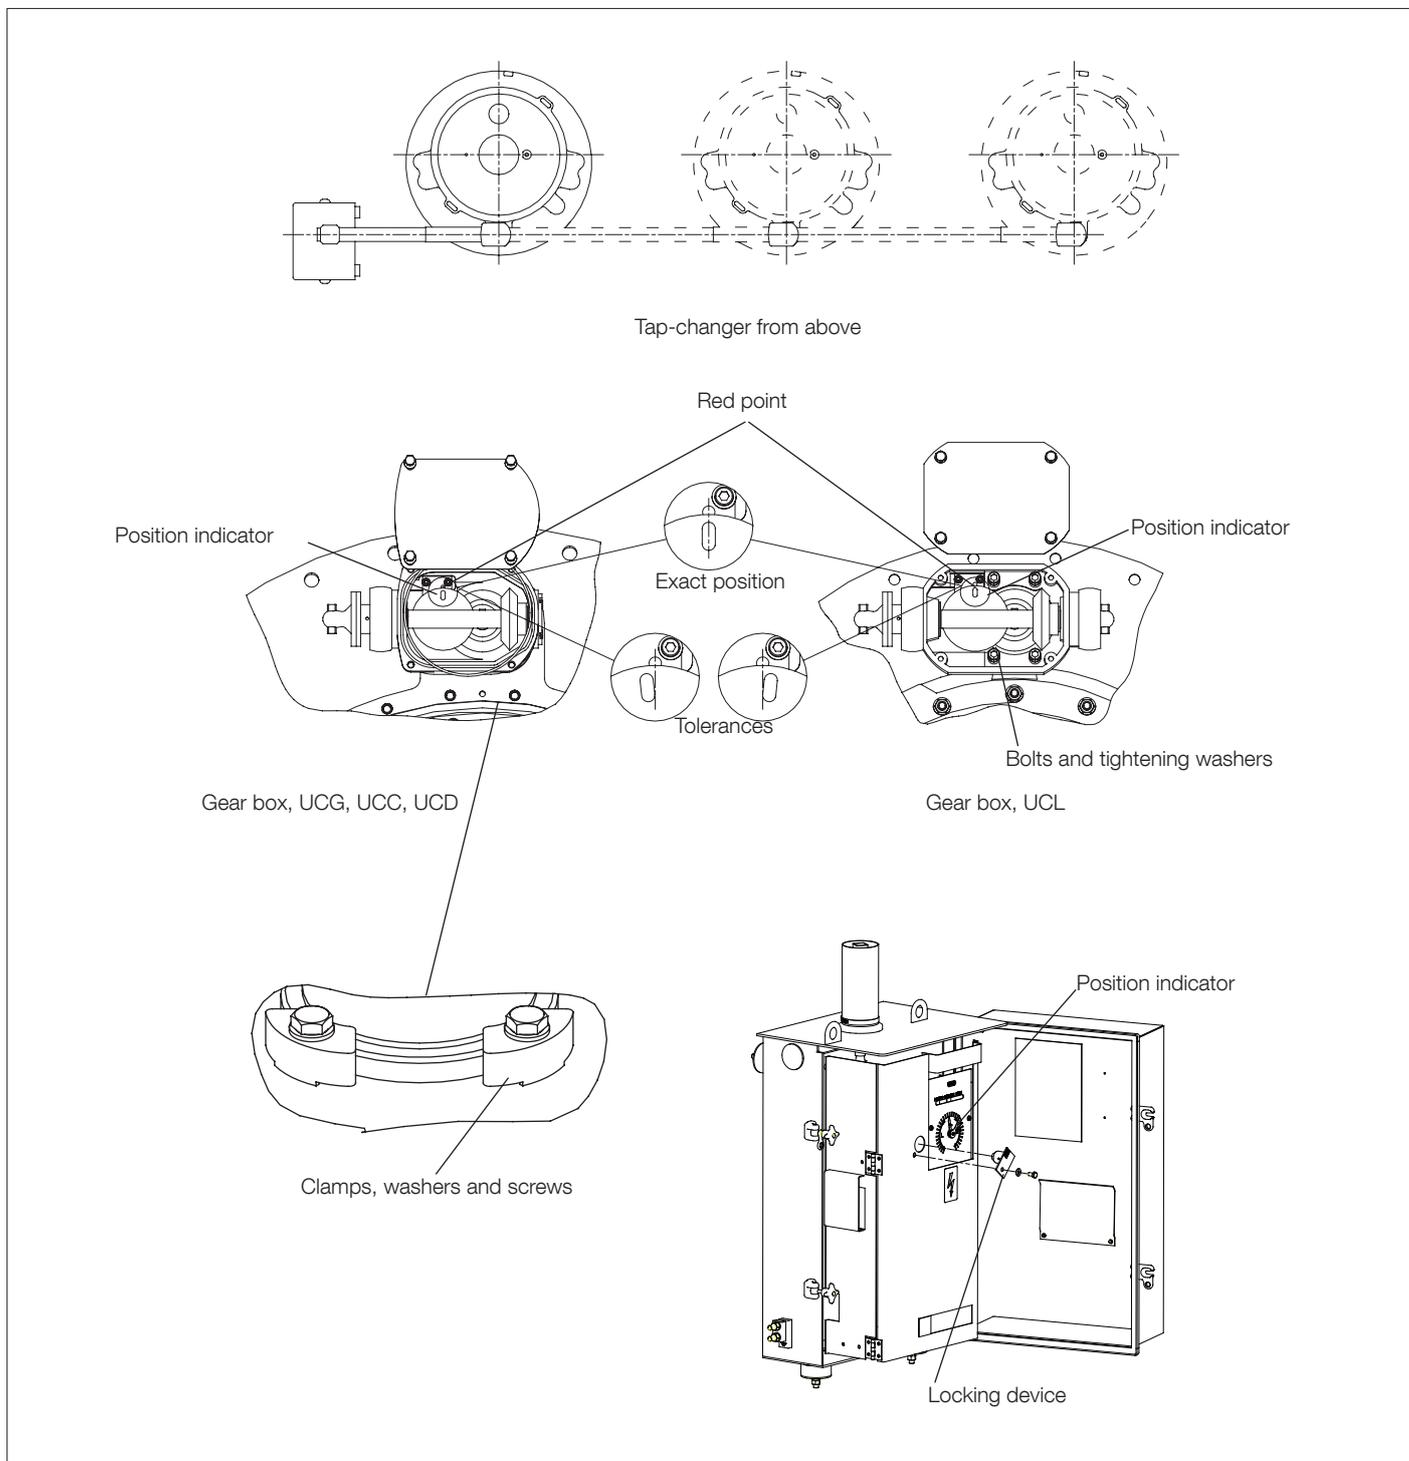

Fig. 8. Adjustment of bevel gear.
5. Check that the key in the vertical shaft of the bevel gear is facing the earthing symbol on the flange, see Fig. 8. If not, adjust by turning the external shaft of the bevel gear. This position must not be changed before the shaft system is completely assembled. Remount the bevel gear box on the top cover. Tighten the bolts.